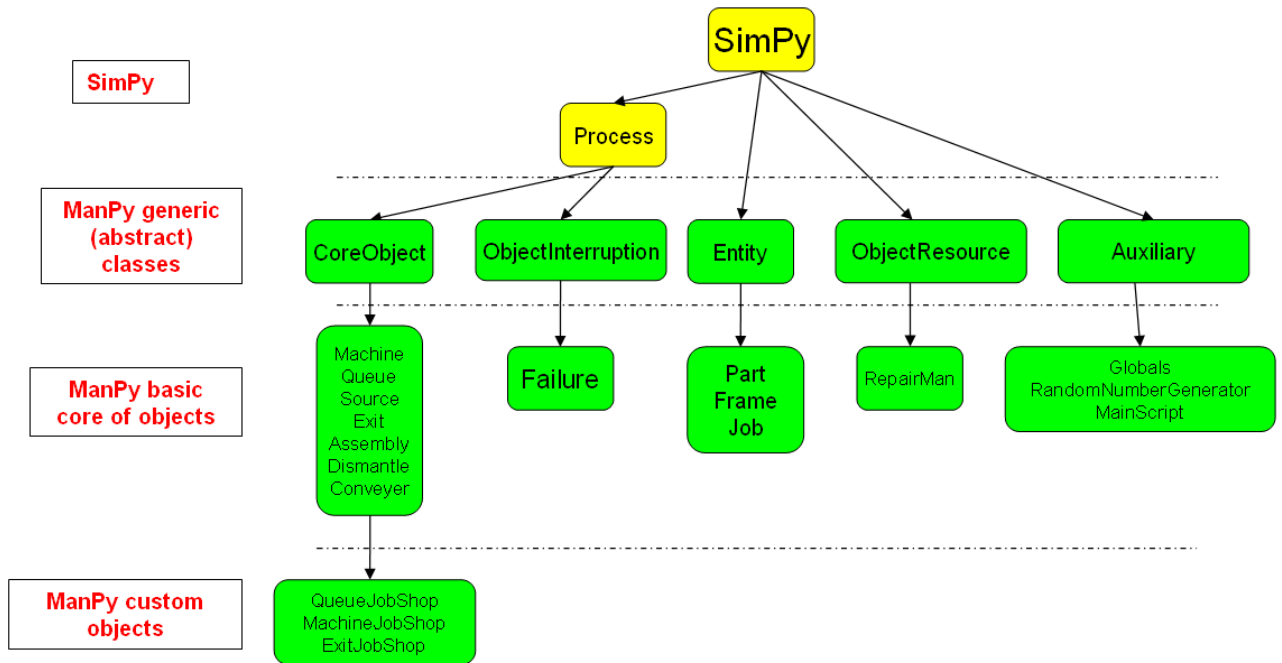

Figure 1: The ManPy class hierarchy.
ManPy objects are written exclusively in Python and they use methods of SimPy. Figure 1 shows the current state of the architecture.
In Figure 1 four different layers are depicted:
- **Auxiliary**: These are auxiliary classes that are needed for different simulation functionalities. Unlike the other categories described here, auxiliary classes do not inherit from one parent class, even though it is depicted in such a way in Figure1 for reasons of coherence.